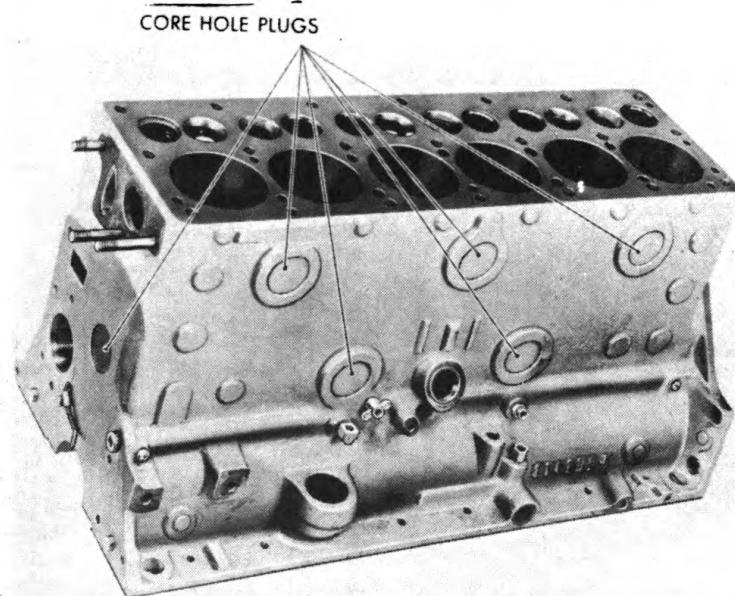

Figure 88—Cylinder Block
Inspect and Repair Cylinder Block Casting—(Figure 88.) Inspect casting thoroughly including the bearing supports for cracks. If
98. INSPECT GASKET SURFACES OF CYLINDER BLOCK AND HEAD—(Figures 88 and 89.)
99. INSPECT AND REPLACE CORE HOLE PLUGS—(Figure 88.)